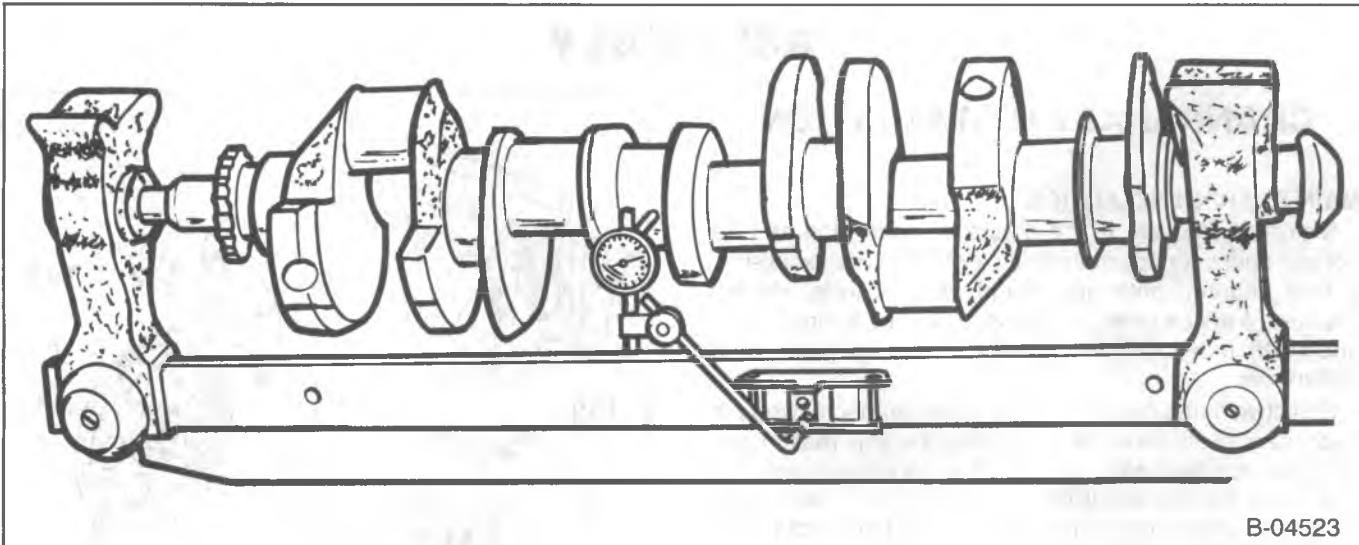

Figure 28—Checking Crankshaft Run-Out
- Crankshaft run-out (figure 28).
Remove or Disconnect (Figure 28)
Install or Connect (Figure 28)